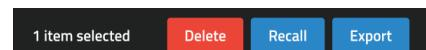

Figure 40: 3 Action Buttons
- 1) Click the "Check Box" on the left of the Scene Name, 3 action button will pop-up at the Bottom (Delete, Recall, Export), see **Figure 40**.